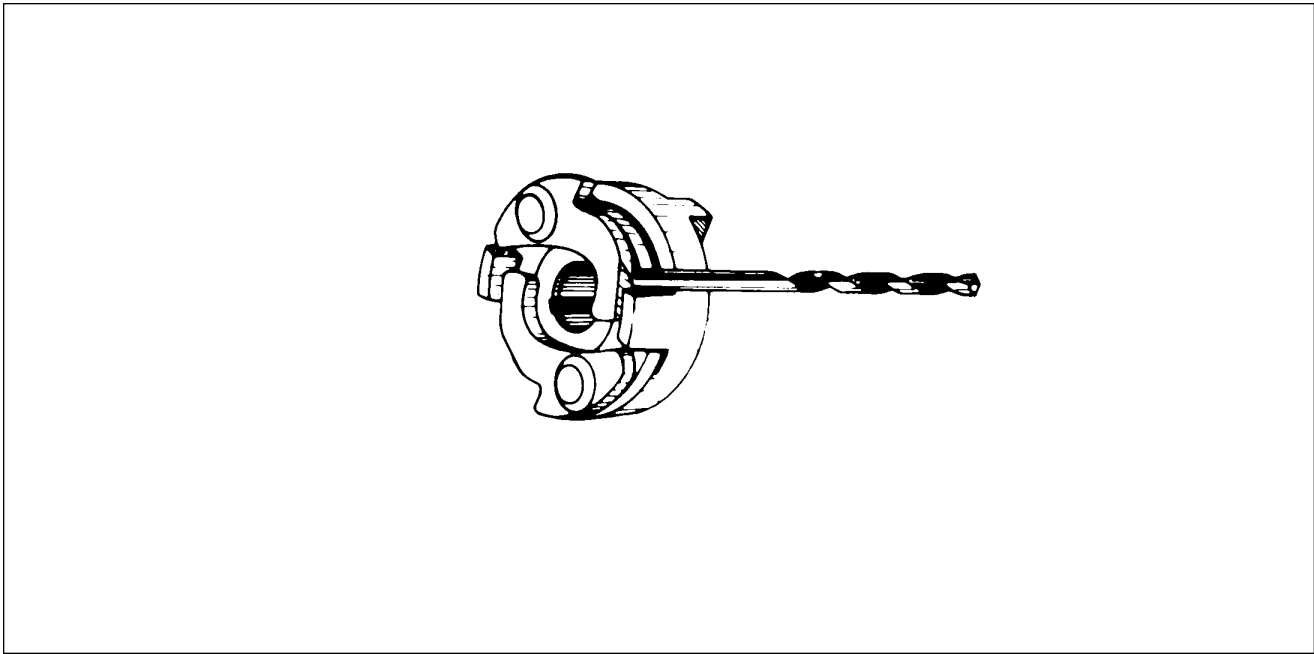

Figure 74-4. Impulse Coupling
13. Inspect impulse coupling parts for excessive wear. Particularly check clearance between cam and flyweight of the cam assembly. Measure the clearance between the cam flyweight using the shank of a new No. 18 drill (0.1695 inch [4.3053 mm] diameter). If the drill will fit between cam and flyweight as shown in Figure 74-4, the cam assembly must be replaced. Check clearance between both flyweight and the cam of each cam assembly.